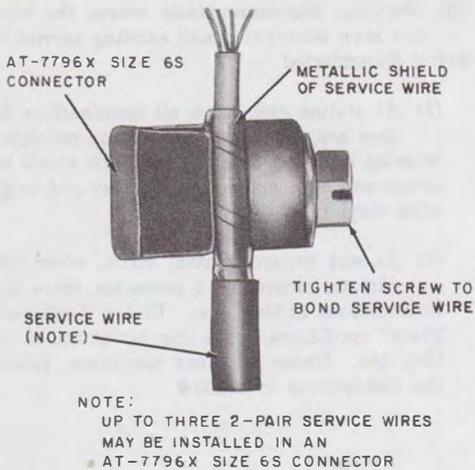
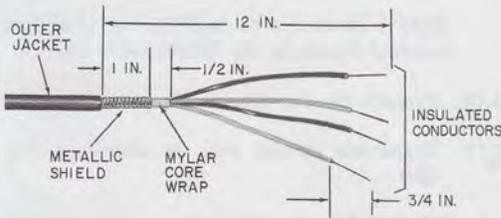
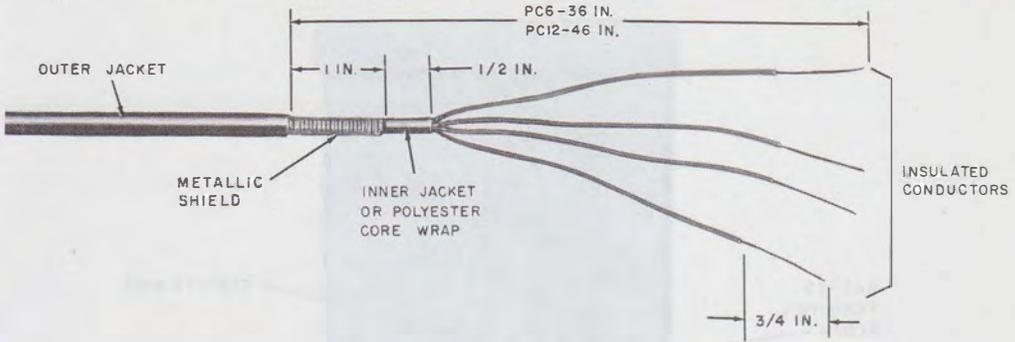
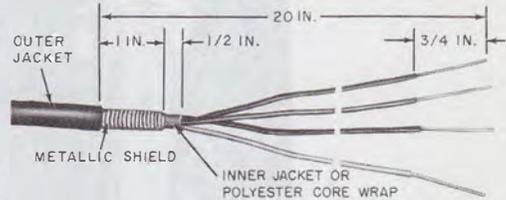

Fig. 4—Service Wire Installed in AT-7796X Connector
Fig. 7—Prepared Service Wire—RC4/72 Cable Closure
Fig. 9—Prepared Service Wire—PC6/48 or PC12/55 Cable Closure
Fig. 14—Prepared Service Wire—D Cable Closure
3.02 Install the metallic shield of the filled service wire in the AT-7796X (Fig. 4) and tighten the screw.
4.01 Prepare service wire as shown in Fig. 7 and install the metallic shield in the AT-7796X connector as shown in Fig. 4.
4.03 Prepare the service wire as shown in Fig. 9 and install the metallic shield in the AT-7796X connector as shown in Fig. 4.
5.04 Prepare service wire as illustrated in Fig. 14.
**E Cable Closure (MD)**
5.05 Route service wire in E cable closure and secure in place with AT-7796X connector as shown in Fig. 4.